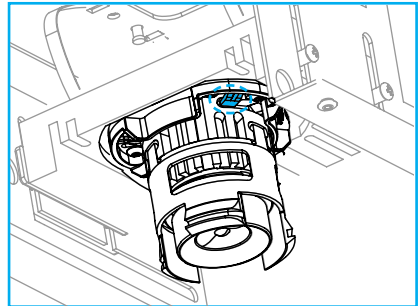

Fig. 18
**Note** LED module will not rotate further, nor move loosely, once properly engaged with retention tabs (Fig. 18).